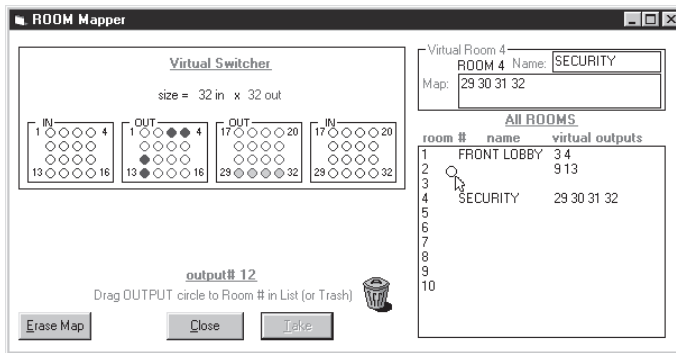

FIGURE 3-7.A
- From the menu on the Main screen, click **SYSTEM-CONFIG** to show the Virtual Switch Virtual Map screen (Figure 3-4.A). From the Virtual Map screen menu, click **CONFIGURE|ROOM CONFIGURE** to show the Room Mapper screen (Figure 3-7.A).